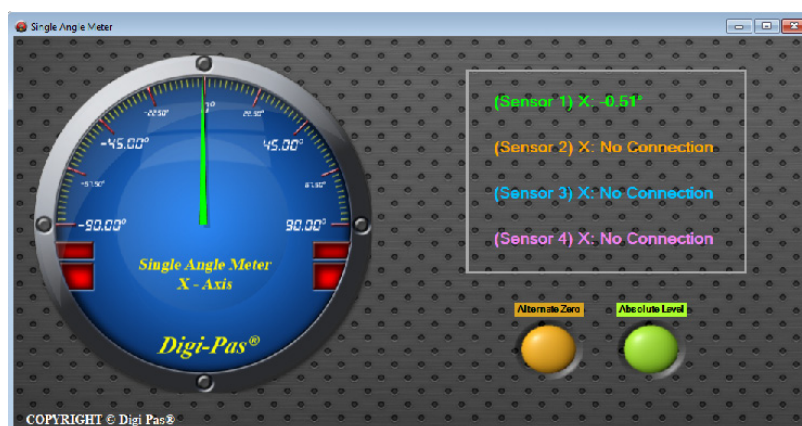

Figure 24. Interface of the PC SYNC software with Single Angle Meter feature
4. Screen as illustrated in Figure 24 appears. The feature icons are enabled and ready for selection (e.g. Single Angle Meter, Dual Angle Meter...). Following is an example when Single Angle Meter feature icon is clicked.